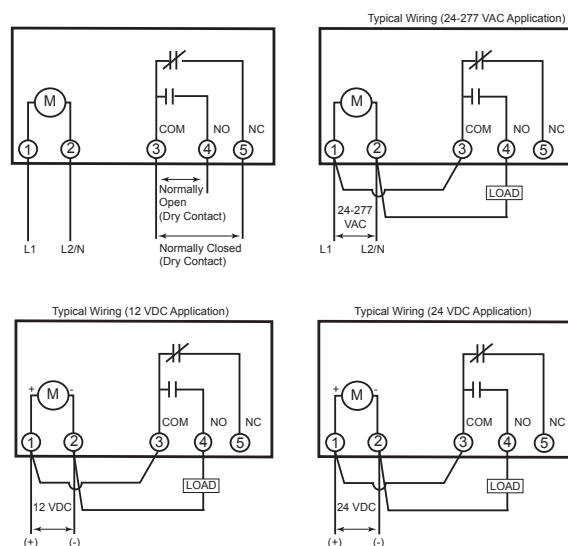

Figure 3. Connect FM1D14 wiring (front view shown).
3. Connect the FM1D14 wiring. See Figure 3 for reference.